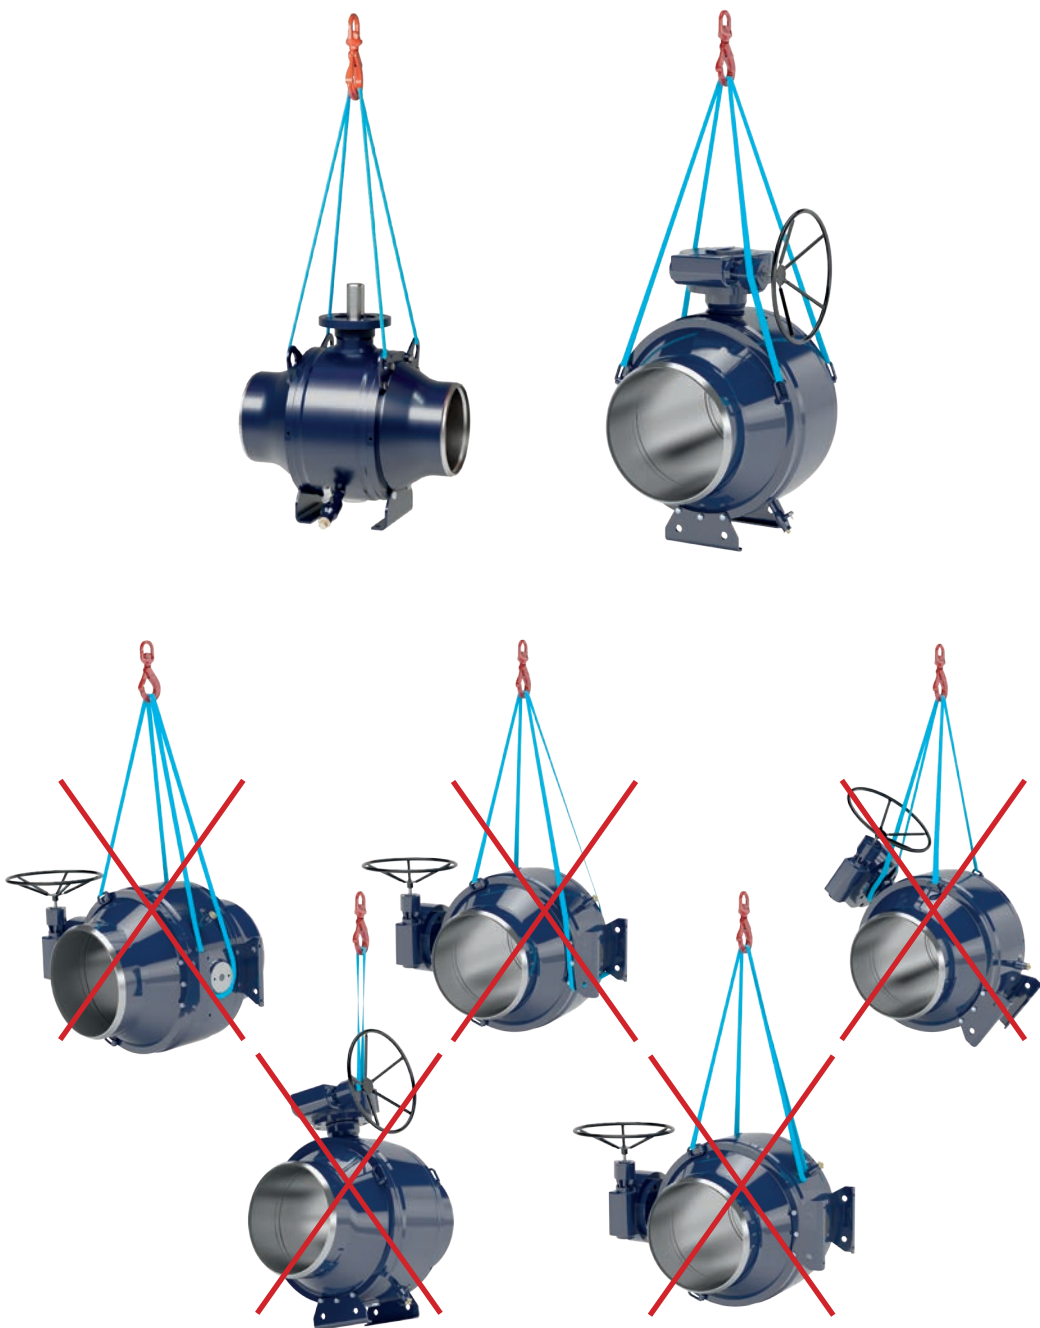

Figure 3. Lifting the valve
Use lifting ropes when lifting the large size valves. It is forbidden to lift the valve by its actuator or stem (see Figure 3).
- The valve or valve assembly must not be lifted from the actuator. If the valve is equipped with lifting lugs, use them (see Figure 3). Dropping or incorrect lifting of the valve can result in personal injury or equipment damage.
- Use one of the allowed lifting methods shown in Figure 3.